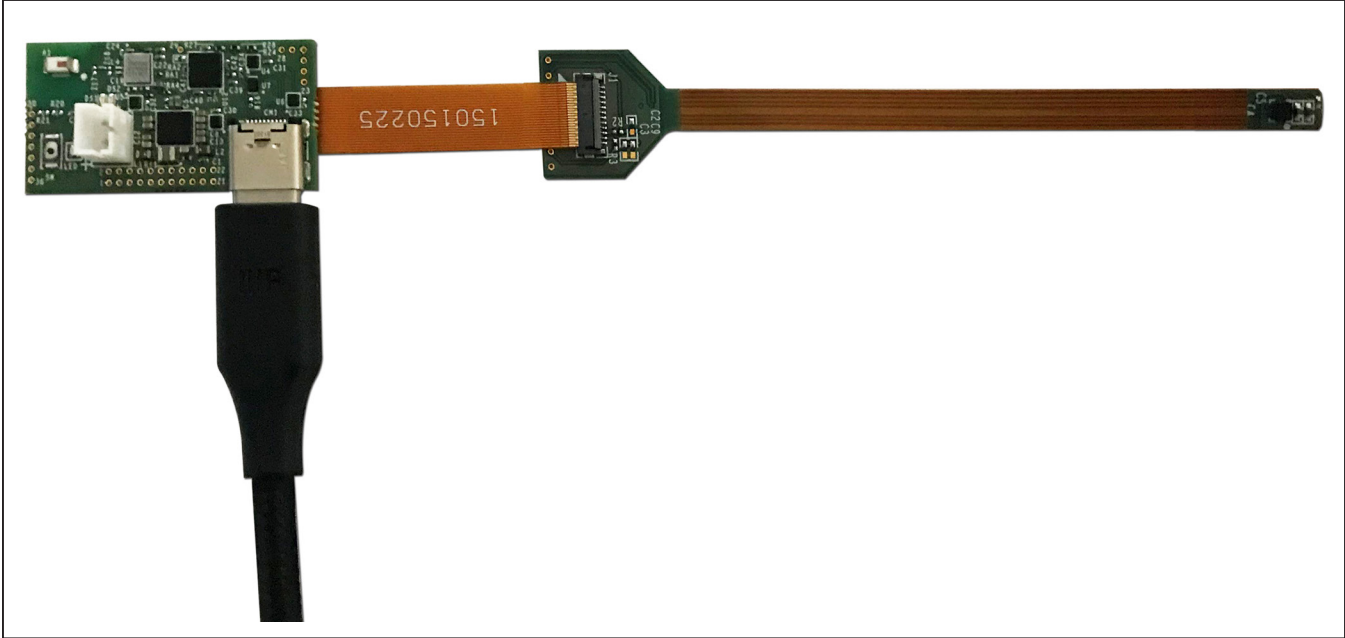
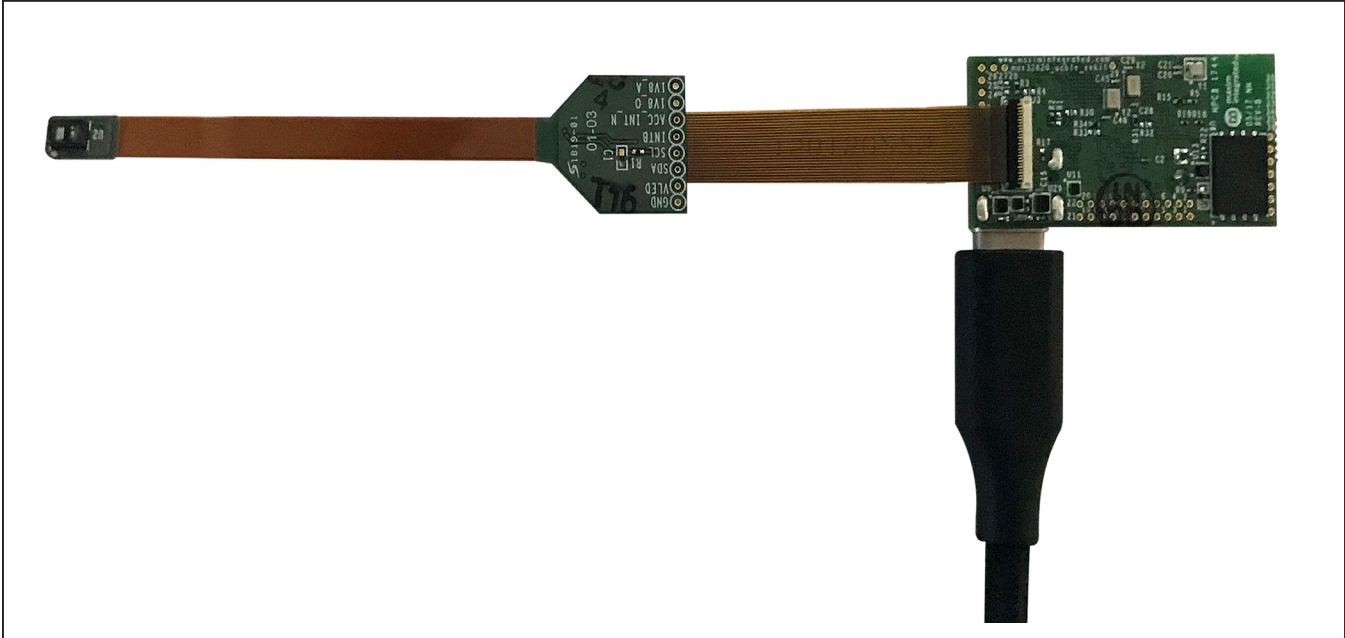
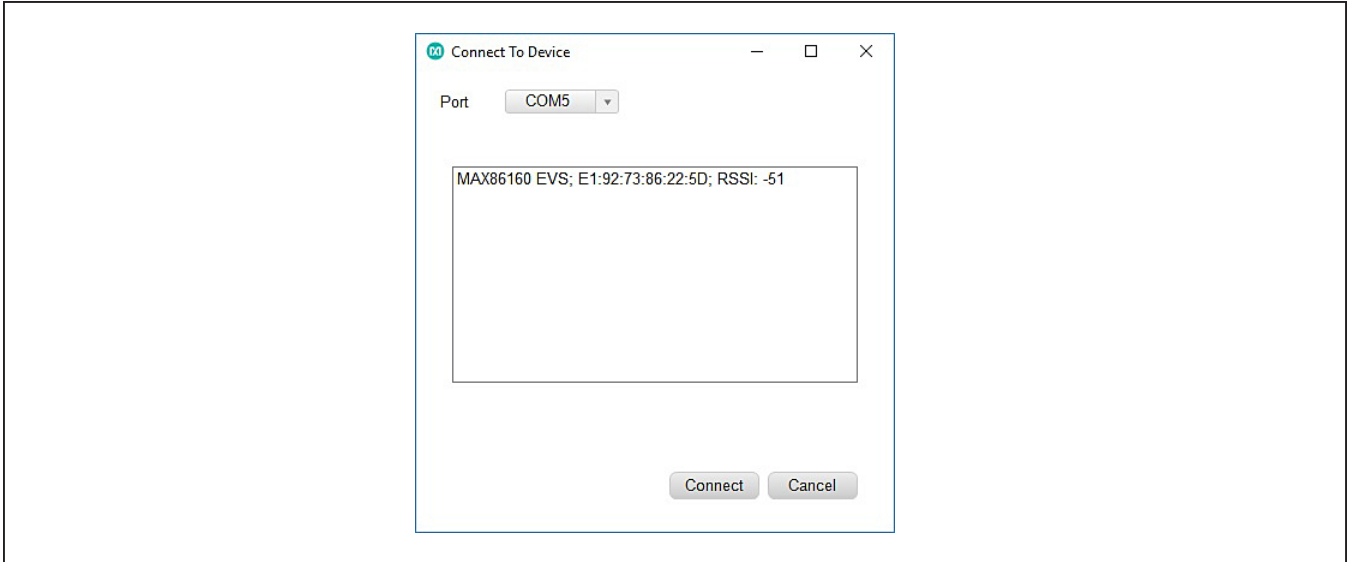

Figure 8. Hardware Setup (MAX86160 EVSYS Micro-PCB)
Figure 9. Hardware Setup (MAX86160 EVSYS Sensor PCB)
Figure 10. Connect to BLE Device
- 5) If the MAX86160 EVSYS flex cable is not already connecting the Data Acquisition EVSYS Micro PCB to the MAX86160 Sensor Flex Board, then please connect the two PCBs with the cable as shown in Figure 8 and Figure 9.
- 6) Connect USB-C cable or LiPo Battery to the Data Acquisition Board to power up the EVSYS. If LiPo battery is used, press the power switch (SW) to turn on/off the device. When powered on, the green LED will toggle.
- 7) After that, start the MAX86160 EVSYS GUI program. "Connect Device" will appear, choose your device and press "Connect" as shown in Figure 10.